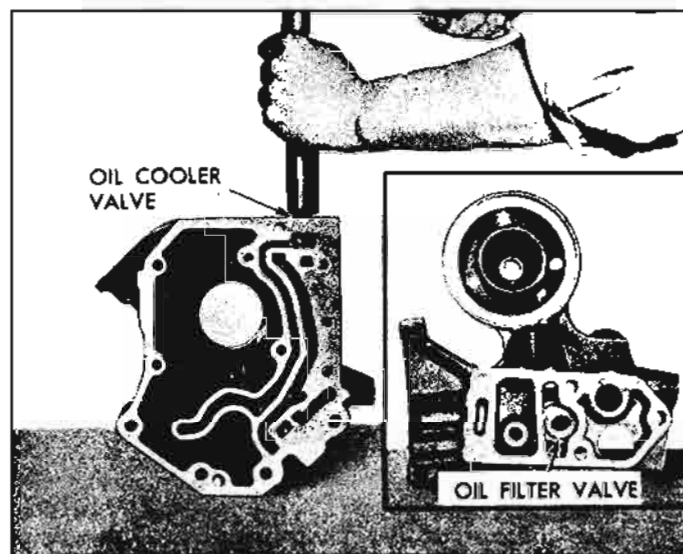

Fig. 6A-79—Oil Cooler and Oil Filter Valve Installation
2. Install the oil filter by-pass with the spring up in the adapter housing (fig. 6A-79).